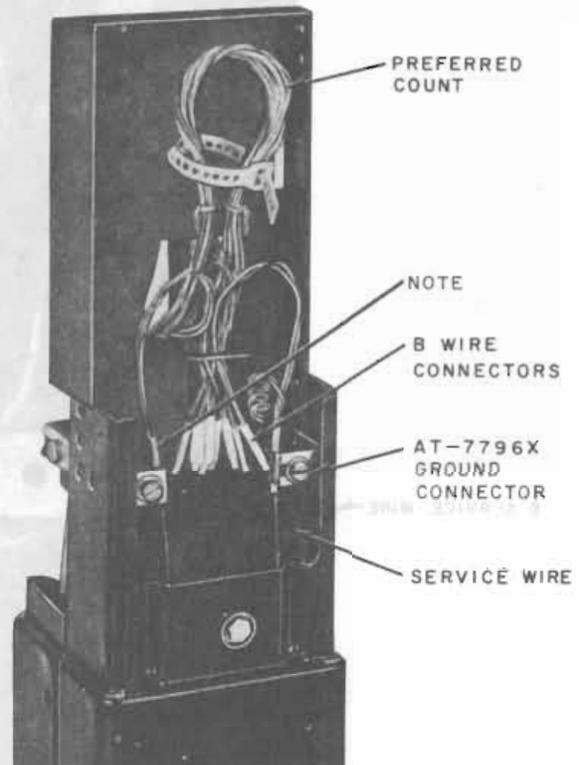

**Fig. 21—Prepared Service Wire—K-Type Closure**
**11.01** Remove all unnecessary slack from the service wire. Mark the sheath of the service wire about 1/4-inch below the AT-7796X connector (Fig. 20). Prepare the service wire as illustrated in Fig. 21.